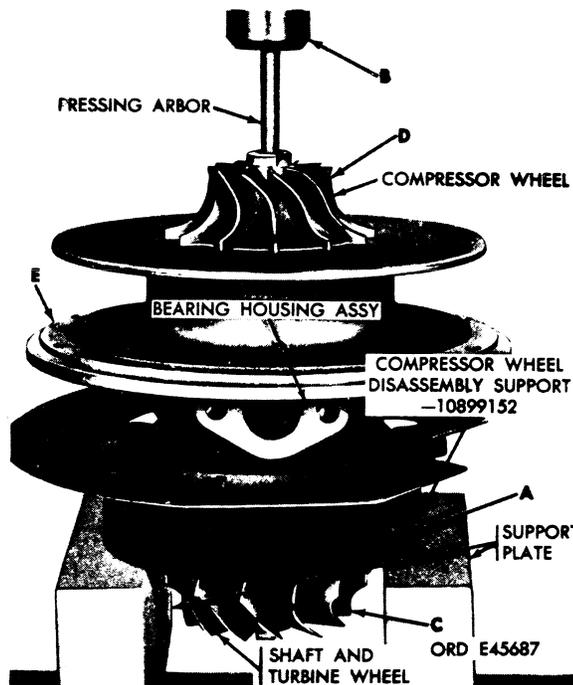

FIGURE 23. PRESSING SHAFT AND TURBINE WHEEL OUT OF COMPRESSOR WHEEL AND BEARING HOUSING.
**Caution:** Immediately after removing the bearing housing assembly place it on the compressor wheel disassembly support - 10899152, as shown in figure 23, to eliminate the possibility of damaging compressor wheel blades.
b. Refer to figure 23.
- (1) Mount the turbine side of bearing housing on compressor wheel disassembly support - 10899152 (A) and support plates.
- (2) Press shaft and turbine wheel (C) out of compressor wheel thrust collar assembly and bearing housing assembly using an arbor press (B).
- (3) Remove shaft and turbine wheel (C).
- (4) Remove compressor wheel (D) and shims from behind wheel. Note thickness of shims and record for use during assembly.
- (5) Remove bearing housing (E) from arbor press and disassembly support - 10899152.